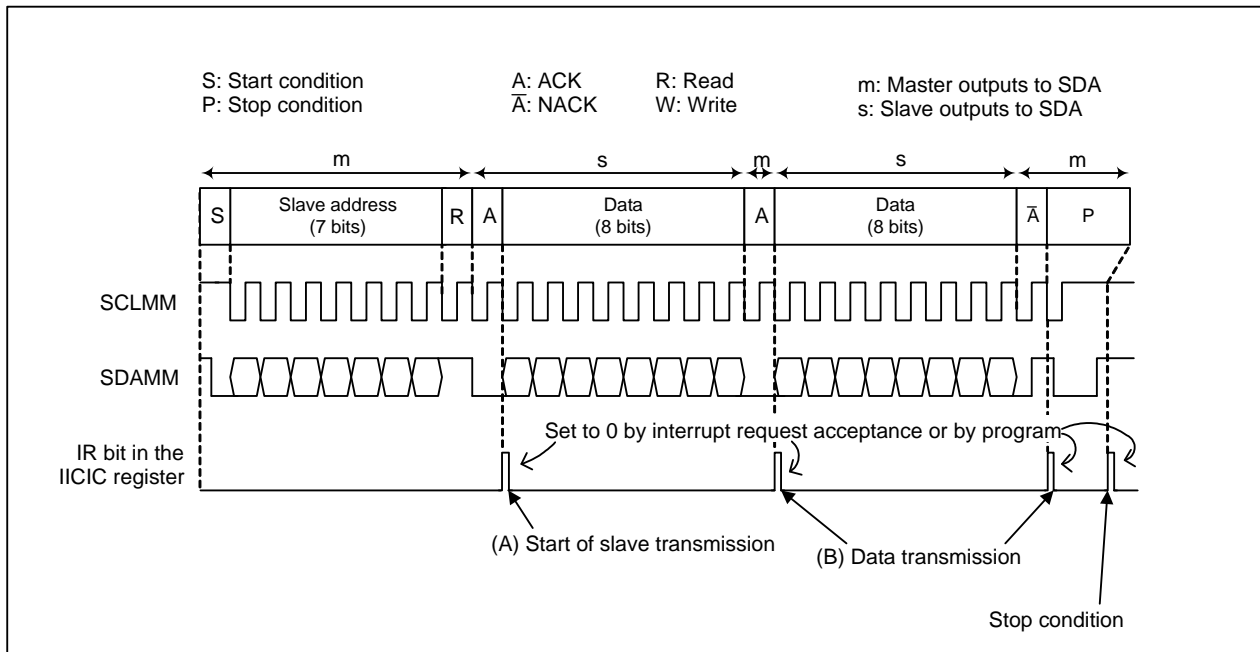

Figure 25.20 Example of Slave Transmission
- (1) Read the received data from the S00 register.
- (2) Set the ACKBIT bit in the S20 register to 1 (no ACK presents) because the data is the last one.
- (3) Write dummy data to the S00 register.
Slave transmission is described in this section. The initial settings described in 25.3.10.1 "Initial Settings" are assumed to be completed. Figure 25.20 shows the example of slave transmission. The following programs (A) to (B) are executed at (A) and (B) in Figure 25.20, respectively.